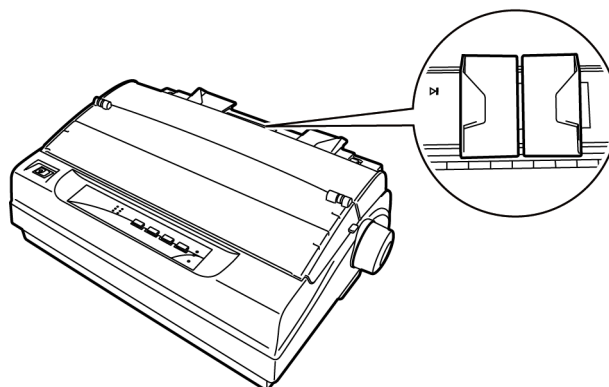

Figure 3-11 Adjust the position of paper guide
7. Slide the right and left edge guides of the paper guide to make them stop at the stopper located on the paper guide. (As shown figure 3-11)